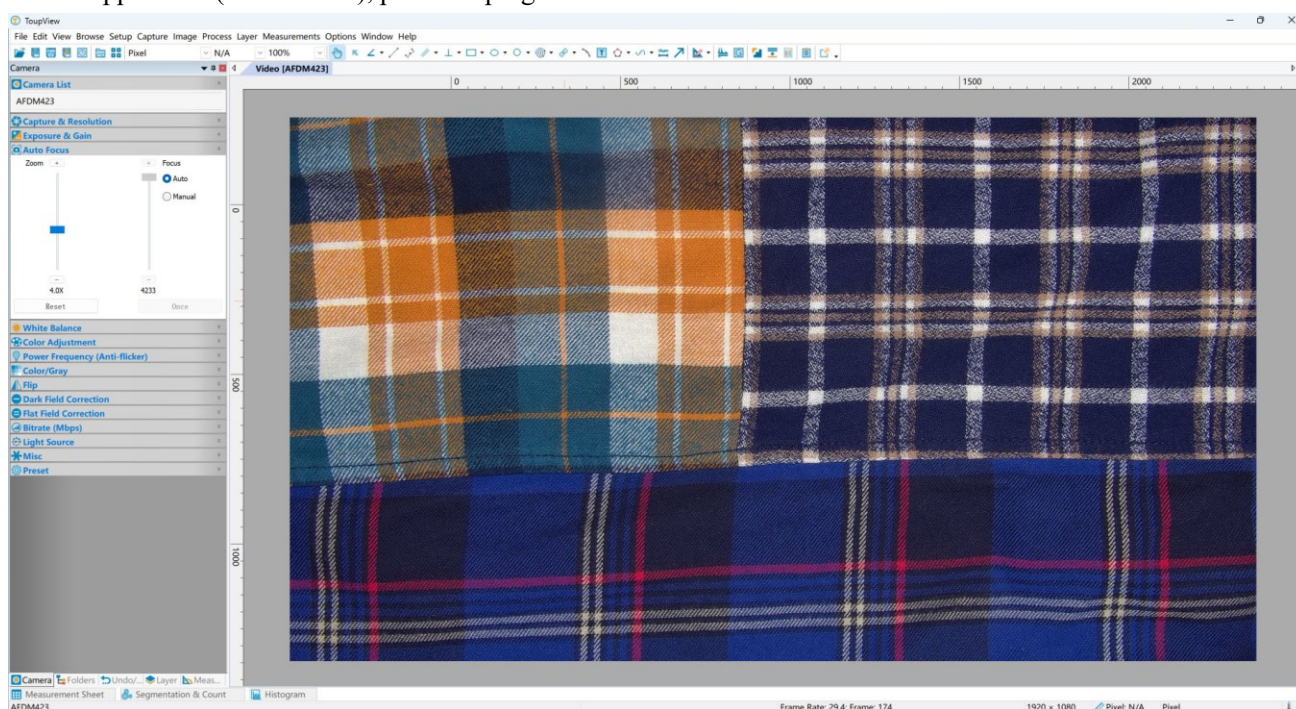

Figure 11 ToupView and AFDM423 Camera in USB Mode
- Install ToupView/ToupLite on your PC or install ToupView App on the mobile device; Run the software ToupView/ToupLite, clicking the camera name in the camera list n to start the live video as shown in Figure 11.
Active AFDM423 camera is recognized by ToupView/ToupLite software or ToupView App and they are displayed as a camera list or thumbnail in the software or app as shown in Figure 11.